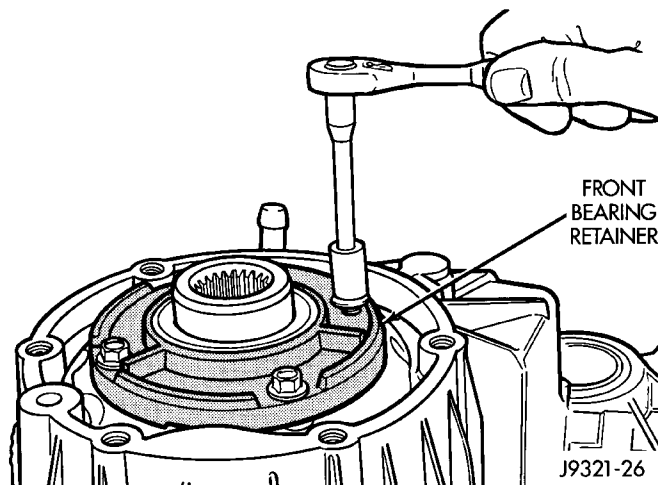

Fig. 58 Install Front Bearing Retainer
(6) Install bolts to hold retainer to transfer case (Fig. 58). Tighten to 21 N·m (16 ft. lbs.) of torque.